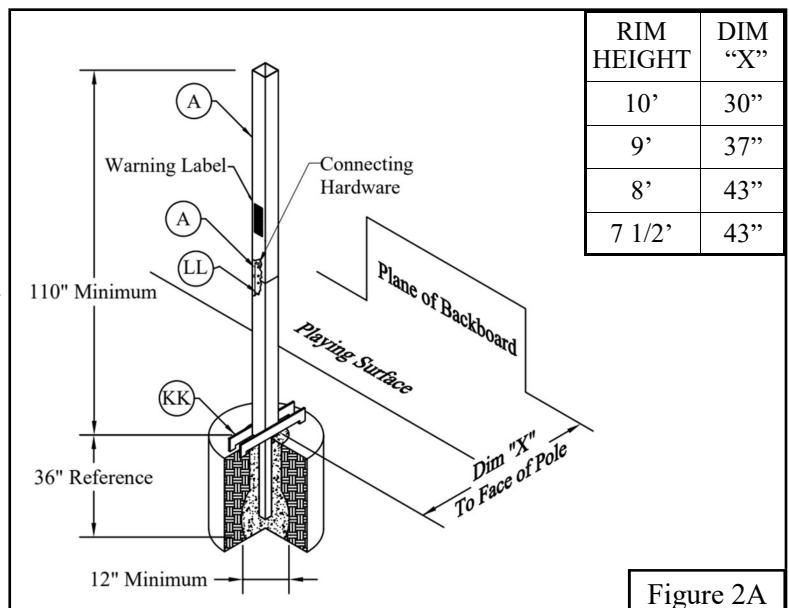
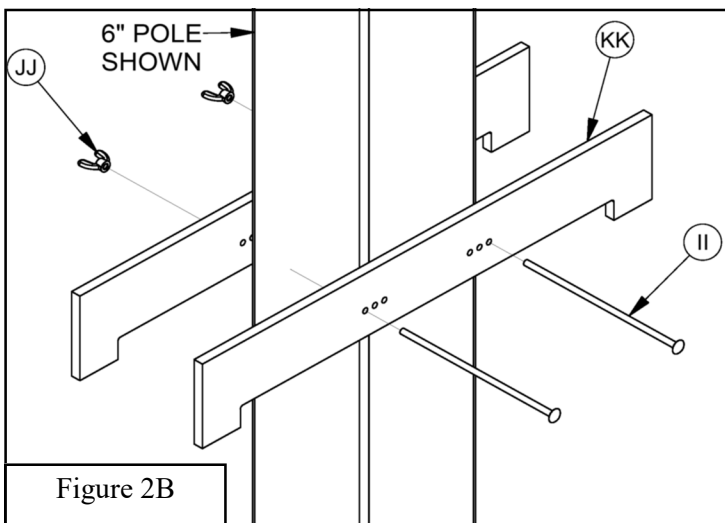

Figure 2A
Figure 2B
2. Determine the desired position of the pole by taking into consideration that the distance between the face of the pole and the face of the backboard changes as the rim height is adjusted. At the top position (official 10' rim height) this distance is approximately 30" and at the lowest point is approximately 43". See Figure 2A.
- 9a. Dig a 12" minimum diameter hole at least 36" deep. Remove additional soil from the bottom 1/3 - 1/2 of the hole into a bell shape. In heavy frost climates a deeper footing will increase pole stability. The amount of *Premix Concrete (GG)* required will depend on final hole size. A 12" diameter x 36" deep hole with additional soil removed will take approximately 3 cubic feet of concrete. Always better to have too much rather than too little on site.
- 10a. Using the two 1/4" x 8" *Carriage Bolts (II)* and 1/4" *Wing Nuts (JJ)* provided, sandwich the two *Pre-Drilled Wooden Panels (KK)* around the pole assembly at a location where the square pole will protrude from the footing. Use the set of holes in the *Pre-Drilled Wooden Panels (KK)* that are closest to the side of the pole assembly depending on pole size. Position them as shown in the illustration to allow clearance above the concrete footing. See Figures 2A and 2B.
- 11a. Tension the 1/4" *Wing Nuts (JJ)* so that the wood cannot move up or down on the pole once you are satisfied that the pole assembly is protruding above the court surface the height specified. See Figure 2B.
- 12a. Adjustment of the angle of the *Pre-Drilled Panels* (KK) on the pole to match the ground surface adjacent to the footing by slightly loosening and re-tightening the *1/4" Wing Nuts* (JJ) will help keep the pole assembly plumb while concrete is curing.
- 13a. Fill the hole to the top with medium wet, fully mixed concrete. Never use the *Premix Concrete* (GG) dry.
- 14a. Insert the pole assembly into the center of the footing making sure that one set of the *1/2" x 3/4" Button Head Screws* (LL) are on the back side of the pole assembly and the flat front face of the pole assembly is square to the playing surface. **POSITION OF THE SCREWS IS CRITICAL TO THE RIGIDITY OF THE POLE.**
- 15a. While the concrete is still wet and the pole assembly is moveable, adjust the *Pole Installation Kit* (II, JJ, KK) on the pole assembly to help maintain the top of the pole assembly at 110" from the playing surface, plumb in both directions and with the front face parallel to the playing surface. See Figure 2A.
- 16a. Filling the inside of the pole assembly with wet *Premix Concrete* (GG) will increase pole assembly stability and require additional *Premix Concrete* (GG).
- 18a. Discard the *Pole Installation Kit* (II, JJ, KK) once footing is cured and install the *Warning Label* (WW) at eyelevel on the rear of the pole. **IF YOUR WARNING LABEL BECOMES DAMAGED OR UNREADABLE, REQUEST A NO COST REPLACEMENT.**
23. Using a marker or masking tape, mark the pole assembly 84" above the actual playing surface. See Figure 2A.